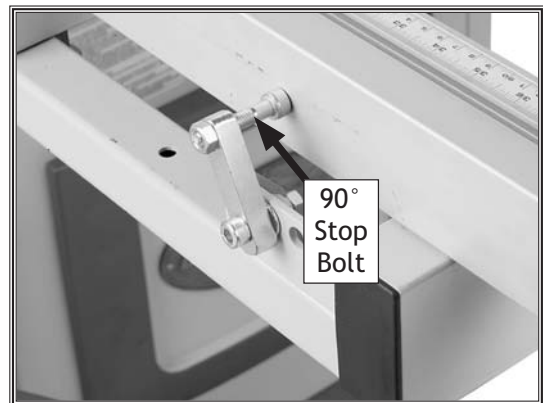

Figure 103. Crosscut fence adjustment cam.
1. Make sure the blade is parallel with the sliding table and that the crosscut fence is resting against the 90° stop bolt (see **Figure 103** for locations).
6. Loosen the hex nut on the 90° stop bolt shown in **Figure 103**, and rotate the 90° stop bolt to square the crosscut fence.